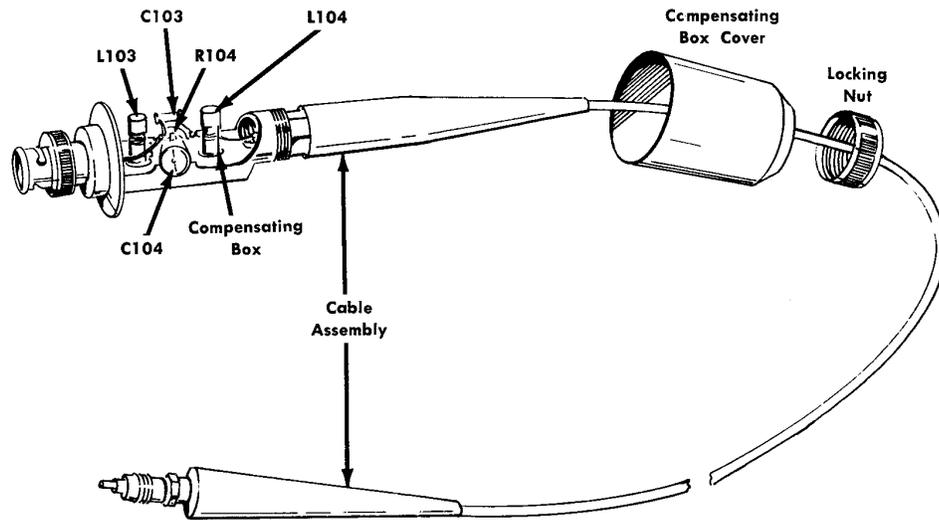

Fig. 4-2. P6008 Probe Compensating Box Assembly.
1. Remove the Compensating Box Cover by unscrewing the Locking Nut that holds it in place (see Fig. 4-2).
3. Set C104 (see probe schematic and Fig. 4-2) to maximum capacitance. Maximum capacitance of C104 is determined when the display shows a minimum spike, or some roll-off.
5. Use items 3, 4, 5, 6, and 7 of Equipment Required, and connect the probe to the 50-ohm fast-rise square-wave generator. Use the 20-nsec cable with the generator as the charge line to obtain a 40-nsec pulse.